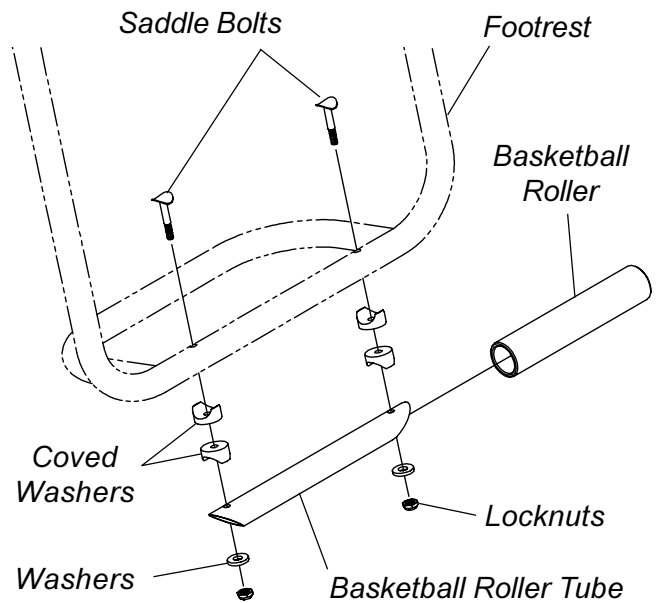

FIGURE 11 - INSTALLING BASKETBALL ROLLER
INSTALLING BASKETBALL ROLLER (FIGURE 11)
1. Install one (1) of the saddle bolts through one (1) of the mounting holes in the footrest.
2. Install two (2) of the covered washers onto the saddle bolt as shown in **FIGURE 11**.
6. Position the remaining covered washers between the basketball roller tube and footrest as shown in **FIGURE 11**.
7. Line up the mounting holes in the footrest, two (2) covered washers and basketball roller tube.
8. Install the remaining saddle bolt through the mounting holes in the footrest, two (2) covered washers and basketball roller tube.
10. Tighten the two (2) locknuts securely.